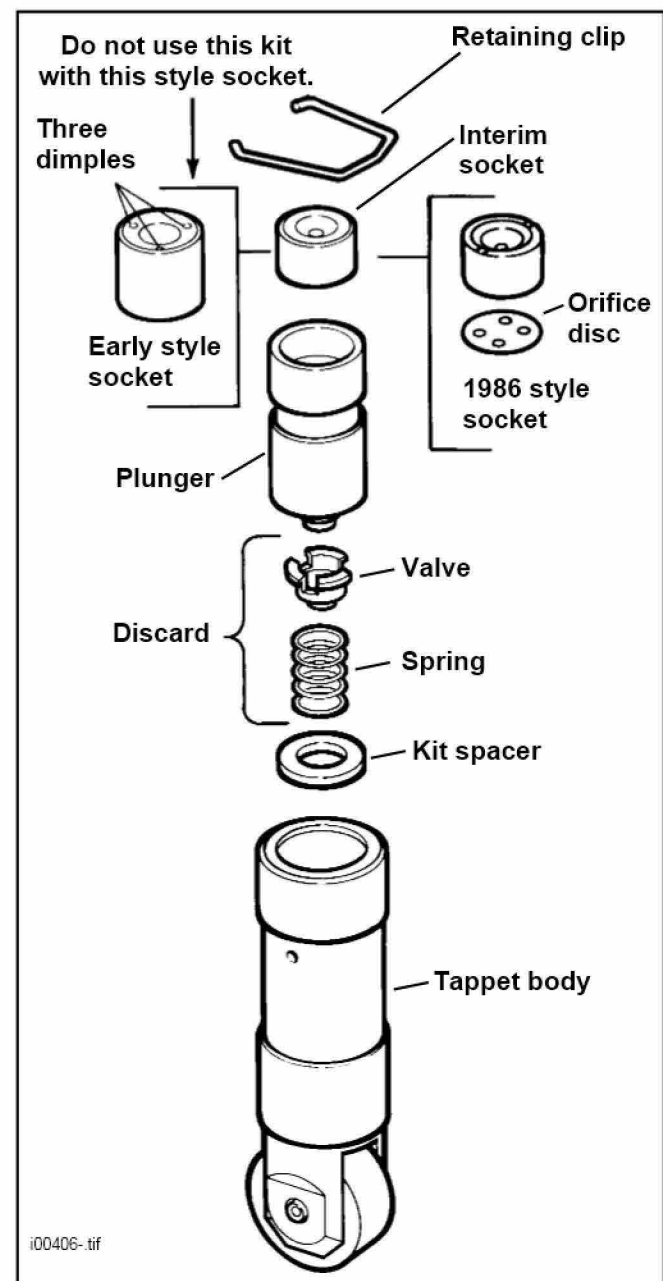

Figure 1. Solid Lifter Assembly
This kit fits Evolution™ 1340cc engines after crankcase number 1585 093 013 and all Evolution™ Sportster engines. These engines have late style tappets. Late style tappets have interim push rod sockets or 1986 style push rod sockets with an orifice disc as shown in Figure 1. Figure 1 also shows an early style push rod socket, from an early style tappet. If your engine has early style tappets, do not use this kit; use Solid Lifter Adapter Kit, Part No. 18500-84.
3. See Figure 1. Press down on socket in tappet and remove retaining clip.